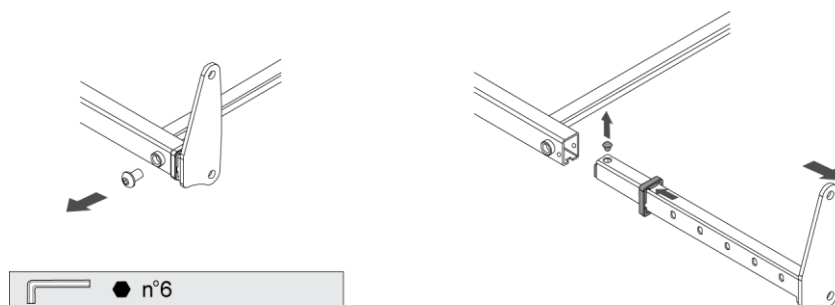

Figure 5.3: Removing of the frontpanel attachments for Pollux Sideguards
- Then remove the frontpanels together with the frontpanel attachments (see fig 5.3)